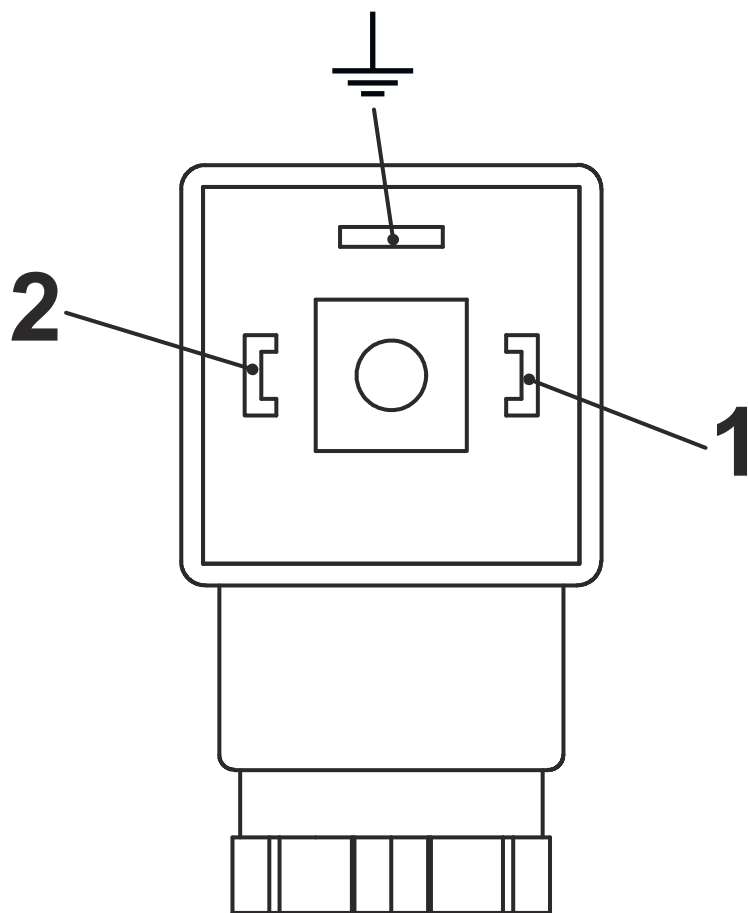
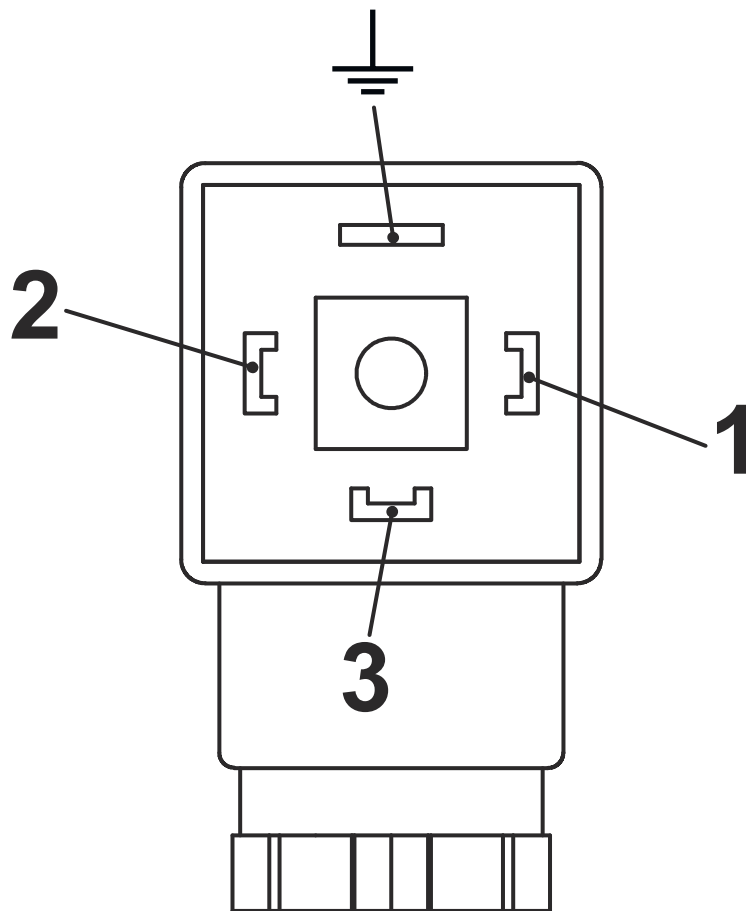

Fig. 32: Pin assignment, plug socket, normally-open contact (SG-30 with connector in compliance with EN175301-803)
Fig. 33: Pin assignment, plug socket, change-over contact (SG-30 with connector in compliance with EN175301-803)
- 6.** ➤ Make the connections as shown in the connection diagram (*Fig. 32* and *Fig. 33*) an